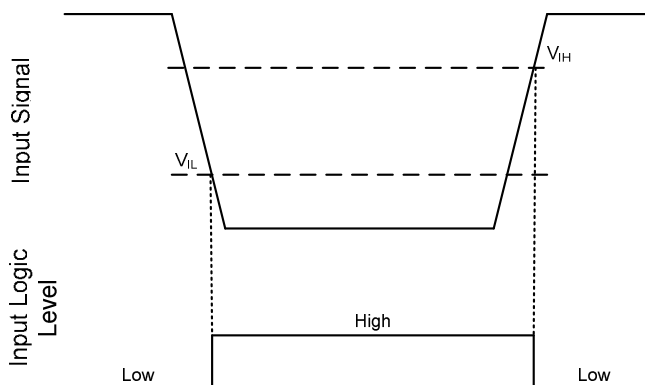

Figure 6: HIN & LIN input thresholds
The inputs of this IC are compatible with standard CMOS and TTL outputs. The IRS233(0,2)(D) family has been designed to be compatible with 3.3 V and 5 V logic-level signals. The IRS233(0,2)(D) features an integrated 5.2 V Zener clamp on the HIN, LIN, and ITRIP pins. Figure 6 illustrates an input signal to the IRS233(0,2)(D), its input threshold values, and the logic state of the IC as a result of the input signal.